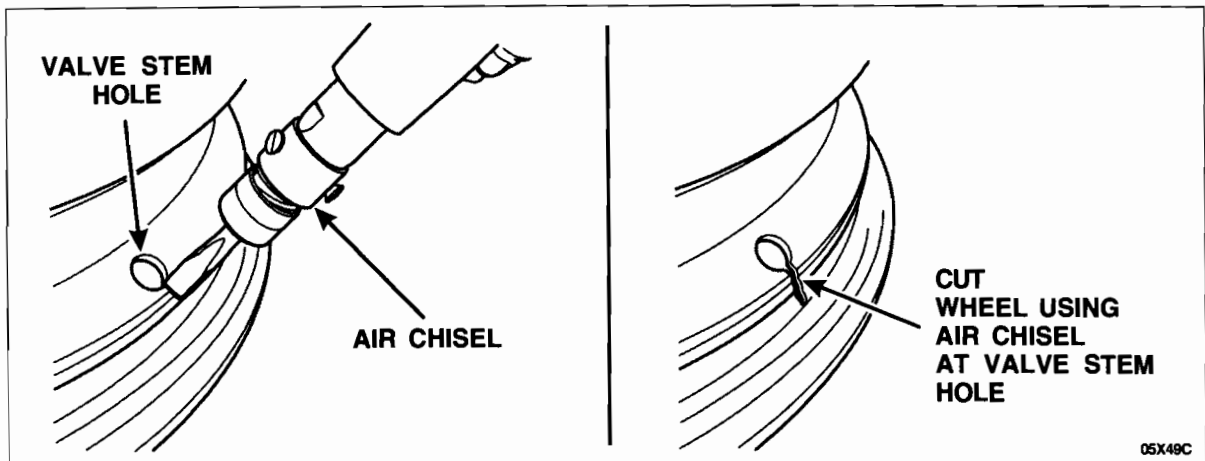

FIGURE 3
1. With the wheel facing down, use an air chisel with a sharp bit to cut a gouge no less than 12 mm (1/2 inch) long in the wheel from the valve stem hole down toward the bead area. The gouge must be large enough and the wheel deformed enough to make sure it cannot be easily repaired. See Figure 3.